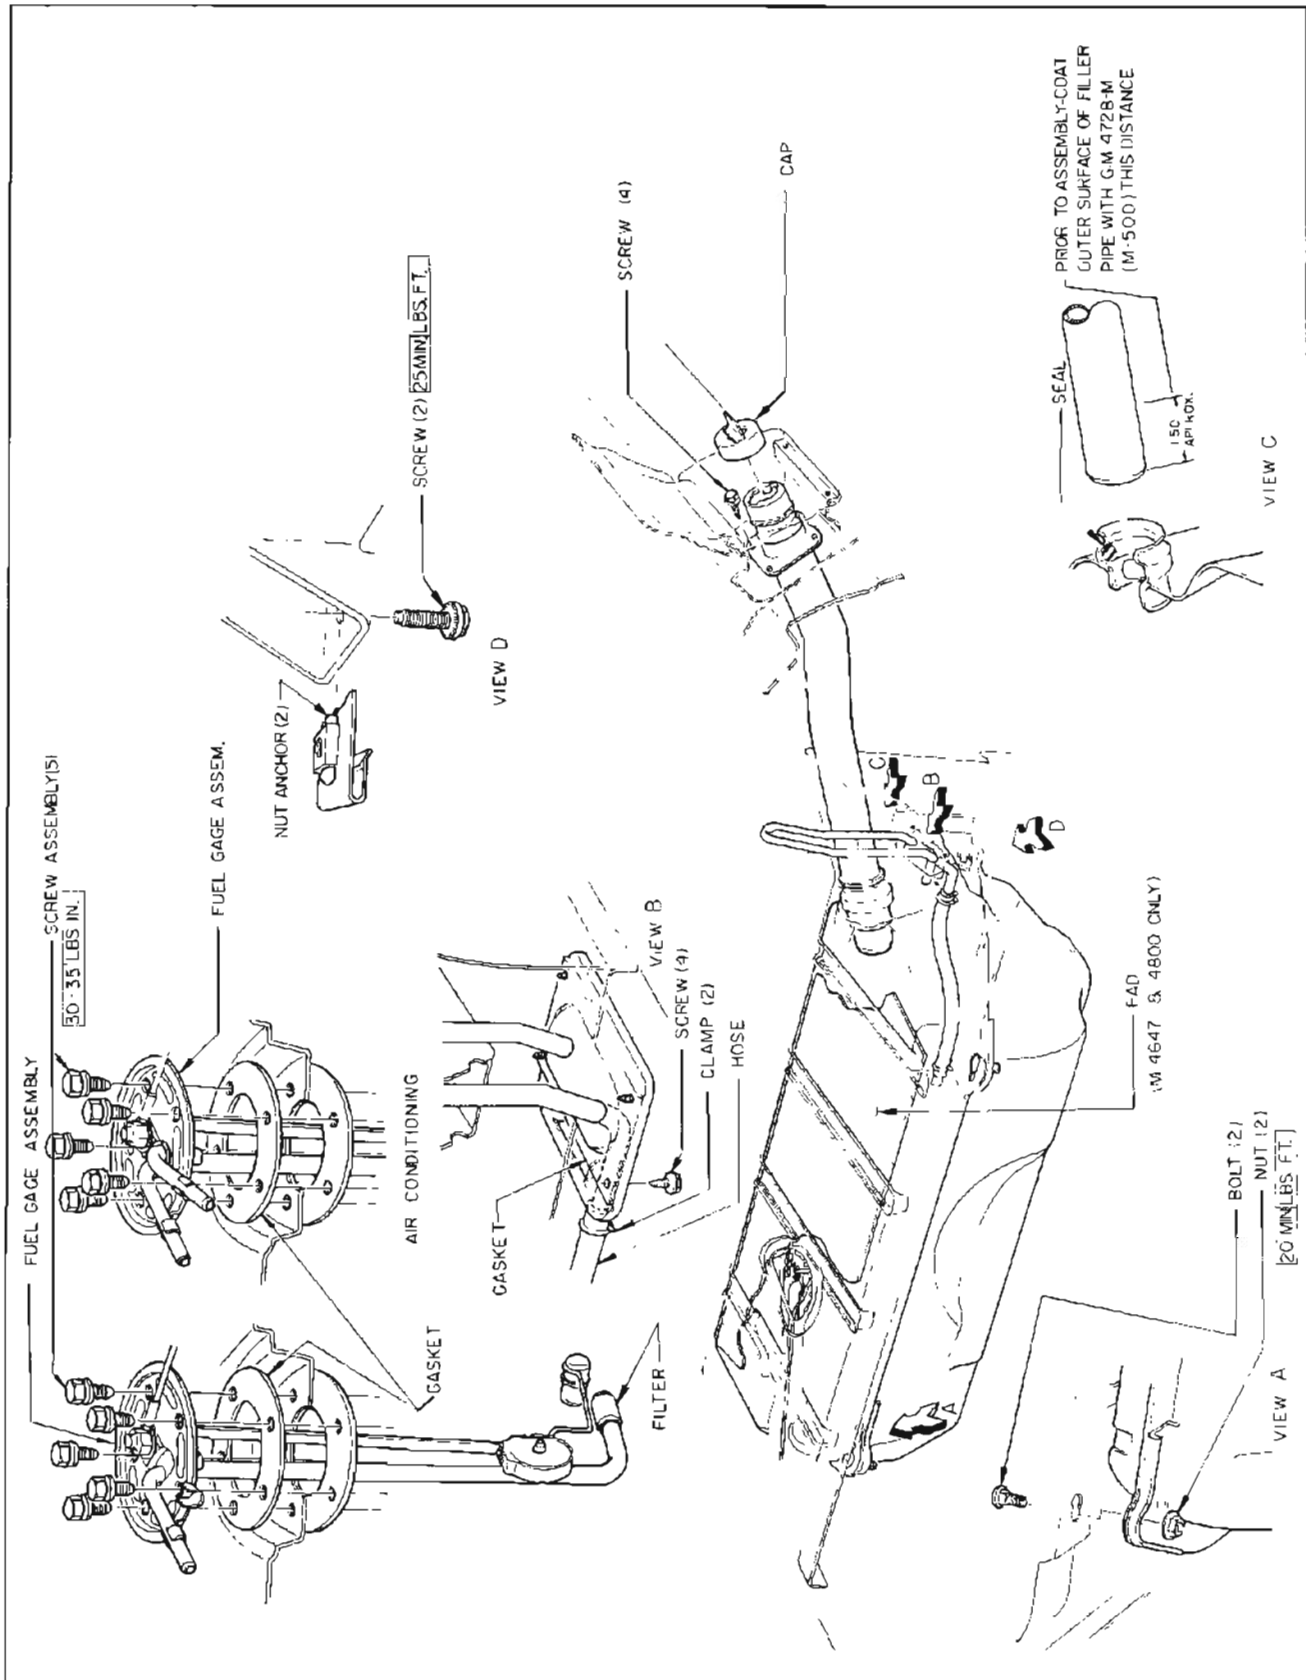

Figure 3-19—Fuel Tank
6. Disconnect tank filler by sliding filler pipe up until clear of gas tank. See Figure 3-19.